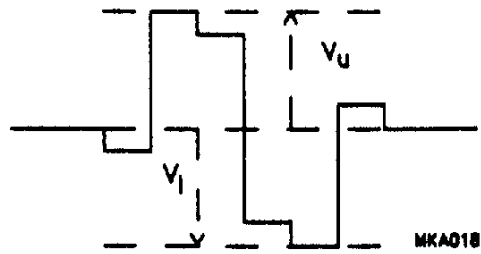

Fig.3 Non-linearity definition.
4. Measured as $100\% \times (|V_u| - |V_l|) / (|V_u| + |V_l|)$; see Fig.3.